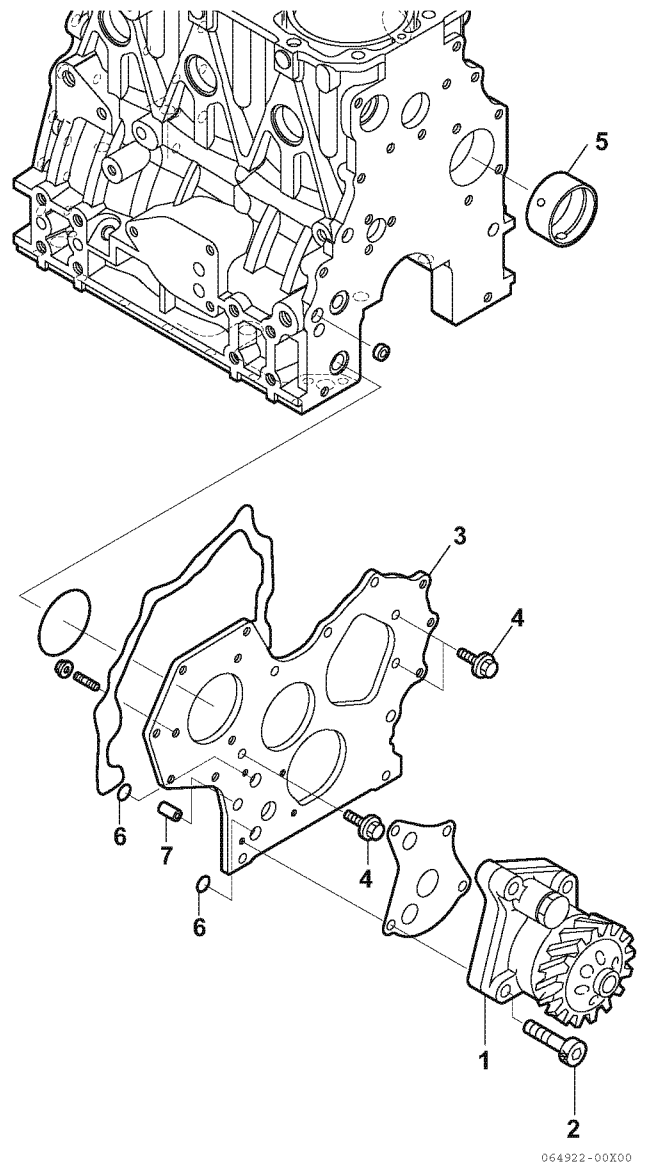

Figure 6-50
1. Loosen the four bolts (2, **Figure 6-50**) (M6 × 25) of the oil pump (1, **Figure 6-50**), and remove the pump.
2. Remove the three bolts (4, **Figure 6-50**) (M8 × 16) of the gear case flange (3, **Figure 6-50**).
4. Inspect and measure the camshaft bushing (5, **Figure 6-50**). *See Camshaft on page 6-6 for the service limit.* If damaged or worn beyond service limits, remove the camshaft bushing.
5. Remove the two O-rings (6, **Figure 6-50**) and dowels (7, **Figure 6-50**).